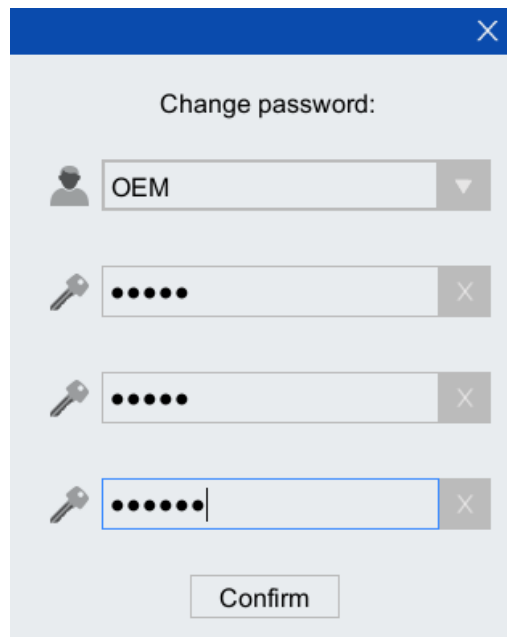
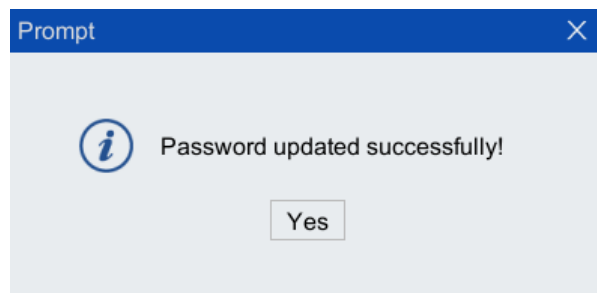

Figure 8-32 Password input complete interface
Figure 8-33 "Modify the password successfully!" "Prompt" box
Step2.The user can first enter the new password according to the prompt in the text box. After the input is completed (refer to Figure 8-32), click the <Confirm> button, and the "prompt" box of "Password updated Successfully!" as shown in Figure 8-33 will pop up , The password is changed successfully.